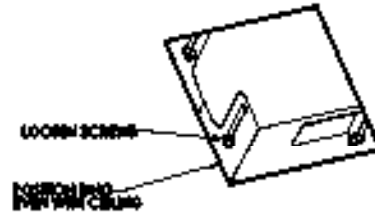

FIGURE 5
1. With finished ceiling or tile in place, loosen adjustment screws (see Figure 5) and position ring even with ceiling. Re-tighten screws securely.